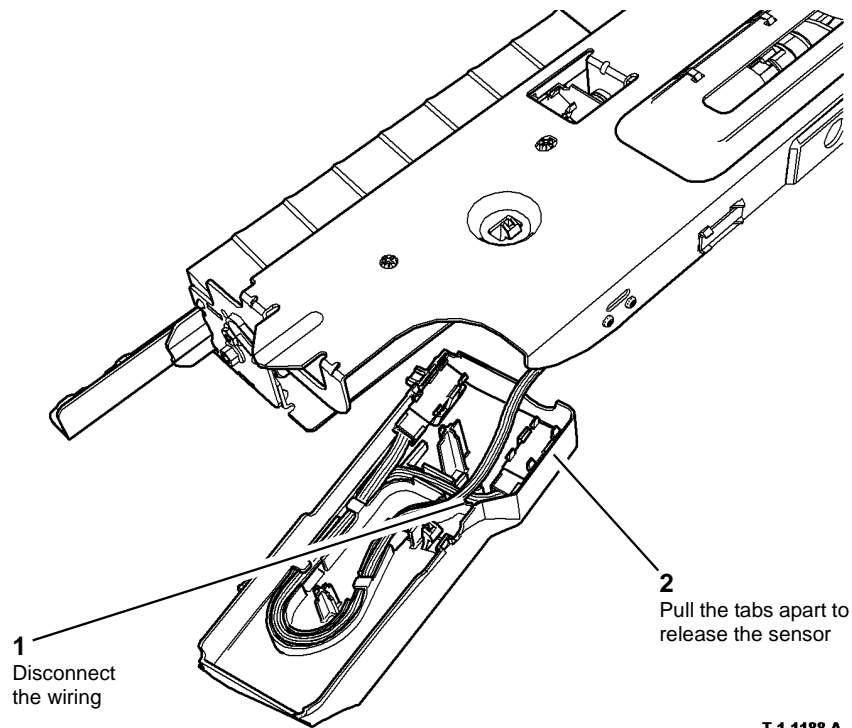

Figure 2 Sensor removal
3. Remove tray 3 empty sensor, Figure 2.